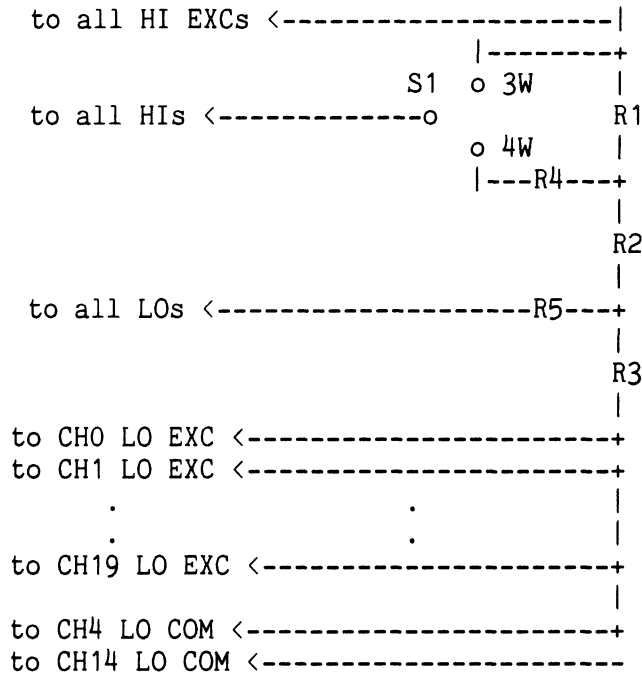

Figure 163-12. Test Input Connector Schematic
1. Wire a -177 RTD/Resistance Input Connector as shown in Figure 163-12, with all connections to R1, R2, and R3 made to the resistor leads. (See Table 163-1 for resistor specifications.)